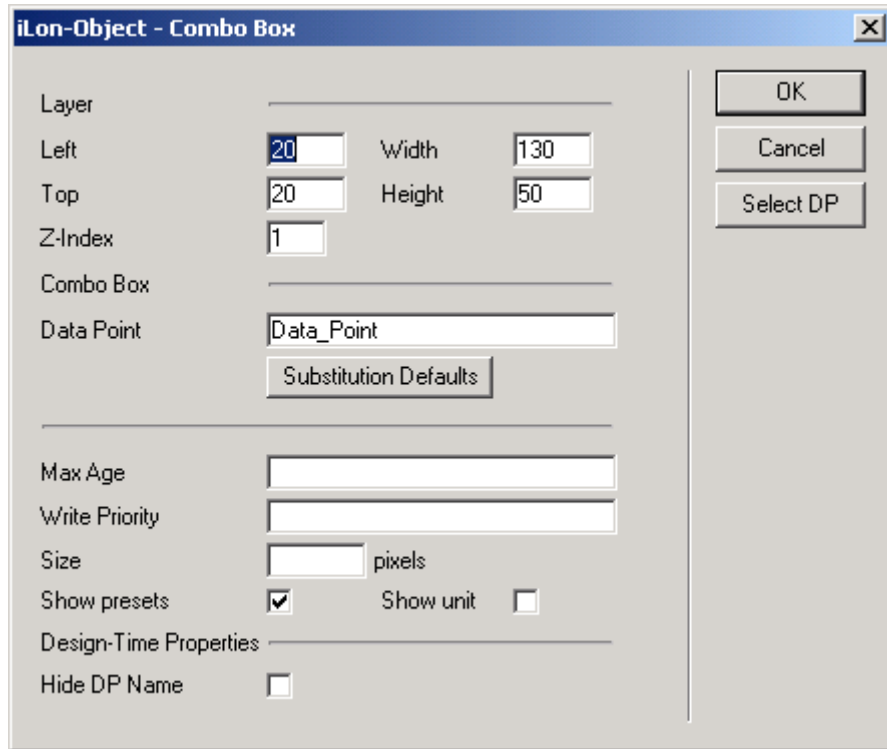

Figure 13.40 Combo Box Dialog
1. Open a draft of a Web page, click the *iLON* button, and then select **Combo Box**. An icon is inserted on the Web page where the combo box will be displayed, and the dialog shown in Figure 13.40 opens.